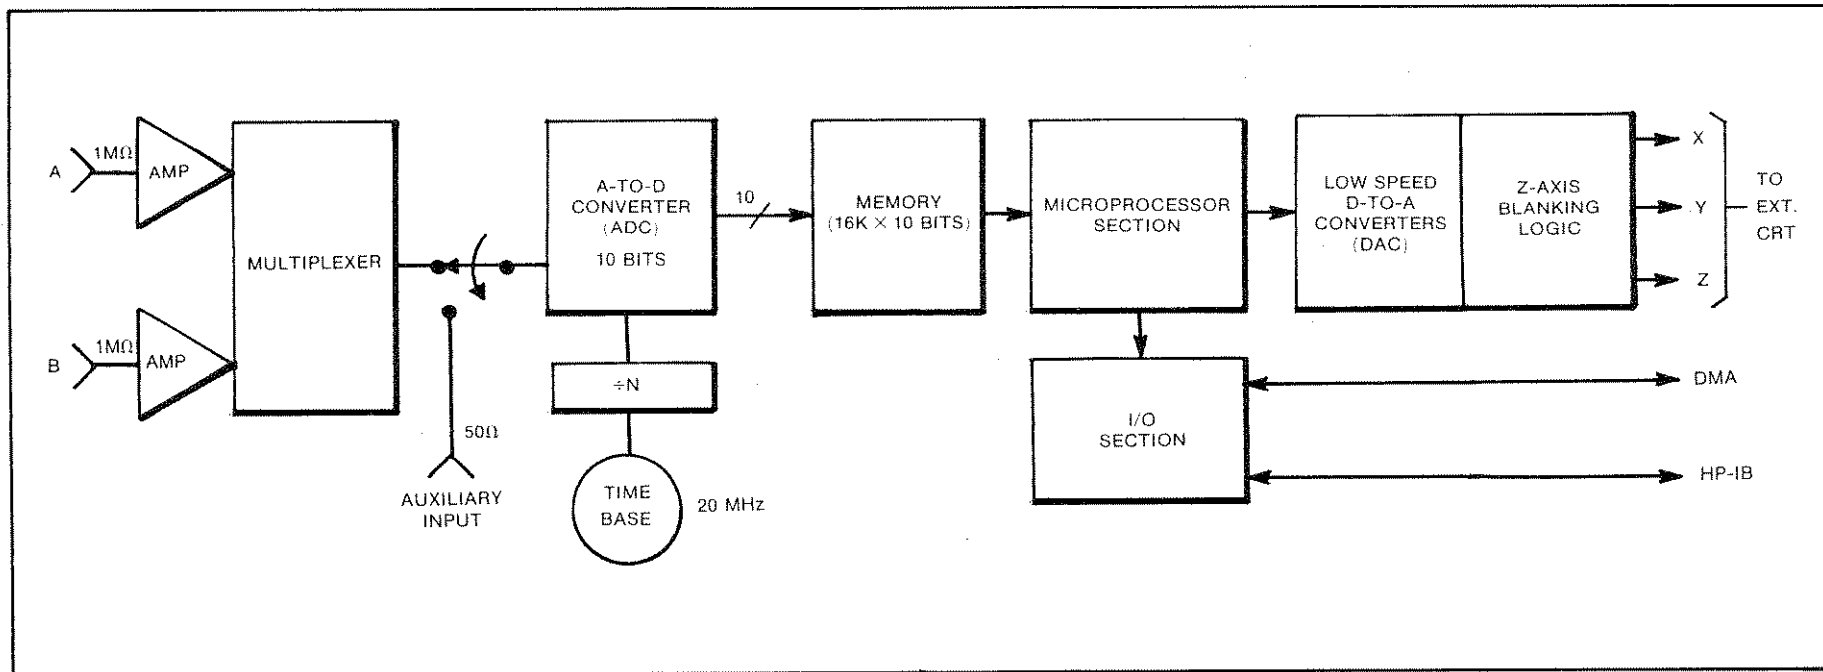

Figure 3-1. 5180A Simplified Block Diagram
3-7. The 5180A has three inputs, Channels A, B, and AUX (auxiliary). The circuits are shown in simplified form in *Figure 3-1*, and are described as follows:
- c. As shown in *Figure 3-1*, the ADC in the 5180A is 10 bits wide. This means that 1024 different codes can be generated, 0-1023. The output of the ADC is offset 512, meaning that the code 512 corresponds to 0 volts, and the codes 0 and 1023 correspond to minus full scale and full scale, respectively.